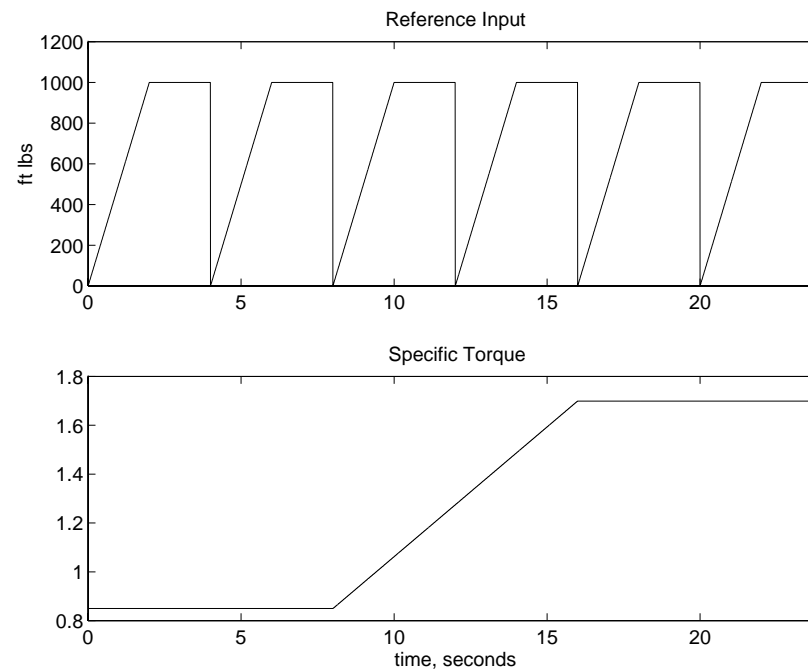

Figure 24: Reference input and specific torque.
- All the simulations we conducted use a repeating 4 second input reference signal and a varying specific torque to represent the brakes heating up as shown in Figure 24.